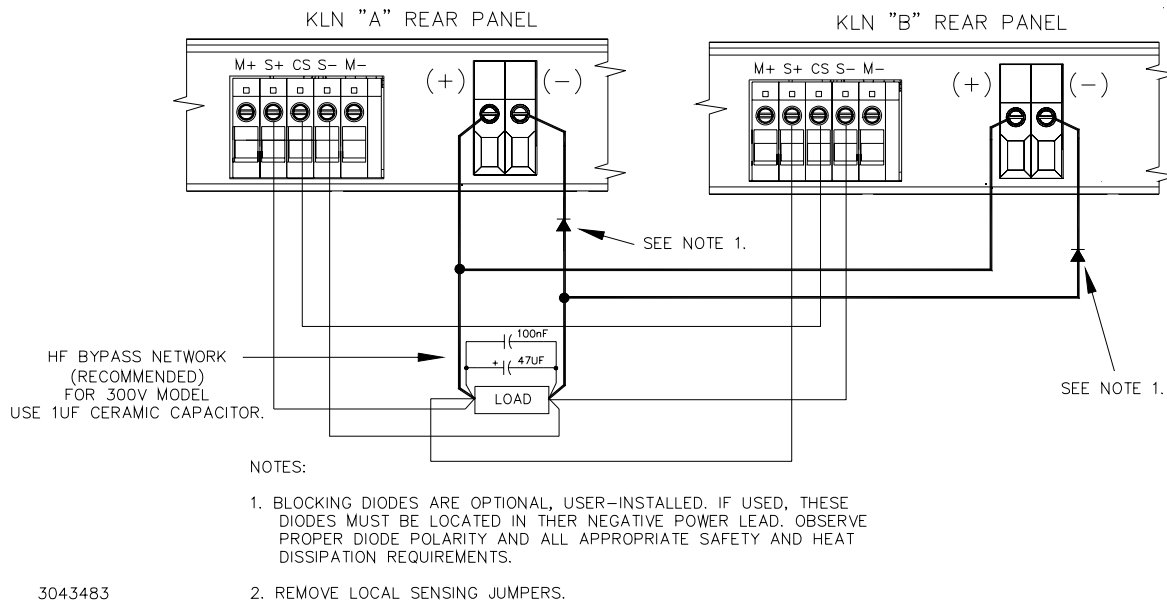

FIGURE 2-5. PARALLEL CONNECTIONS USING REMOTE SENSING
Identical KLR power supply models may be connected in parallel in order to provide increased output current to a common load (see Figure 2-5). This permits the user to obtain significantly higher load ratings than for a single KLR power supply. The number of power supplies required is determined by dividing the required load current by the current rating of the applicable KLR model, and rounding up to the next whole number when necessary. KLR power supplies utilize active current sharing circuitry to distribute the load current equally among the paralleled units. When operating KLR power supplies in any parallel configuration, load sharing **must** be implemented among the paralleled modules. Kepco strongly recommends that parallel applications employ master/slave control (available on standard models only) as described in PAR's. 2.7.8 and 3.2.14.
- For remote error sensing the same procedure is followed as for local sensing, except that the local error sense jumpers are removed from the first power supply as well, and a tightly-twisted wire pair is connected from the S+ and S- terminals of the first power supply to the load regulation point. Install the HF bypass network indicated in Figure 2-5 across the error sense termination points.